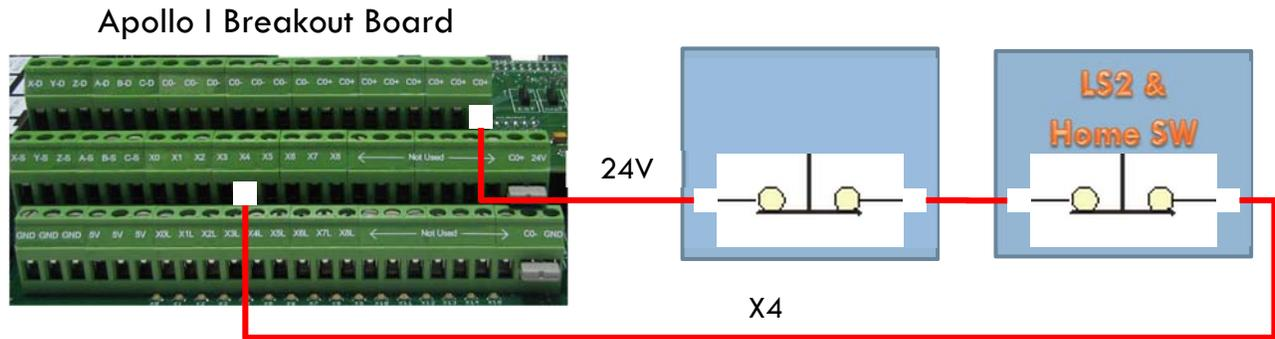

FIGURE 33 LIMIT SWITCHES IN SERIES
2. Wire the two switches together in series as shown in Figure 33. Make sure to wire the switches using their normally closed contacts.
9. Set up the active state. Under the active low column you can change the active state by clicking on the “X” or check mark. For normally open, the green check mark should be used. Accordingly, for normally closed switches, the red “X” should be selected. If your limits are wired as shown in Figure 33 then this column should have the red “X”.